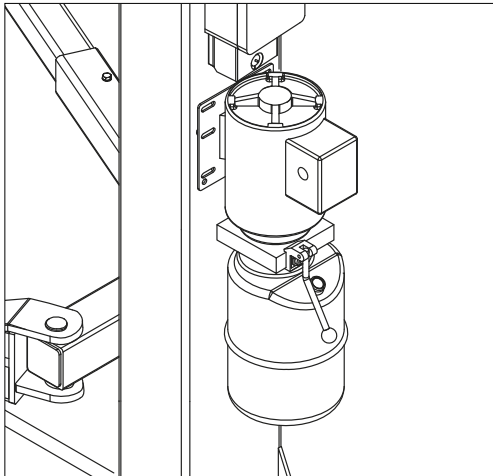

Fig. 36
- ◆ Install the pump on the hock board according to Fig. 36 and fix it on the bottom of main column.